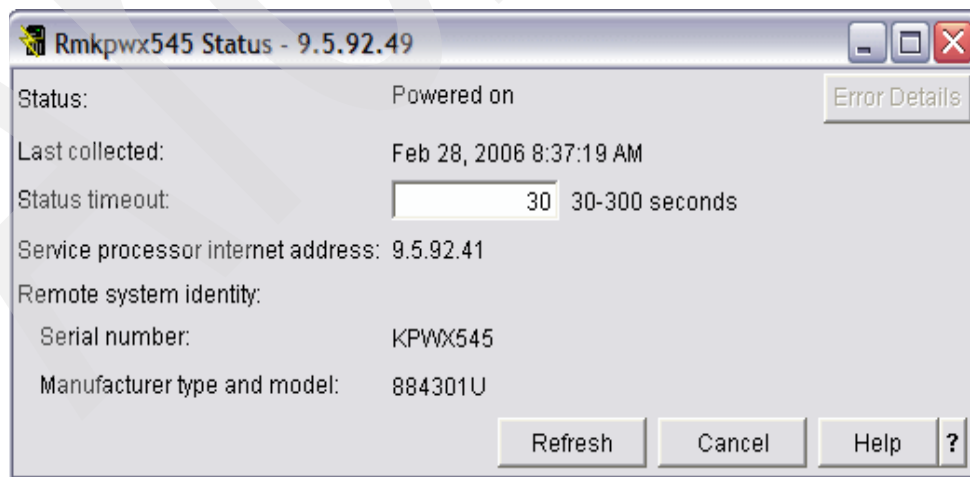
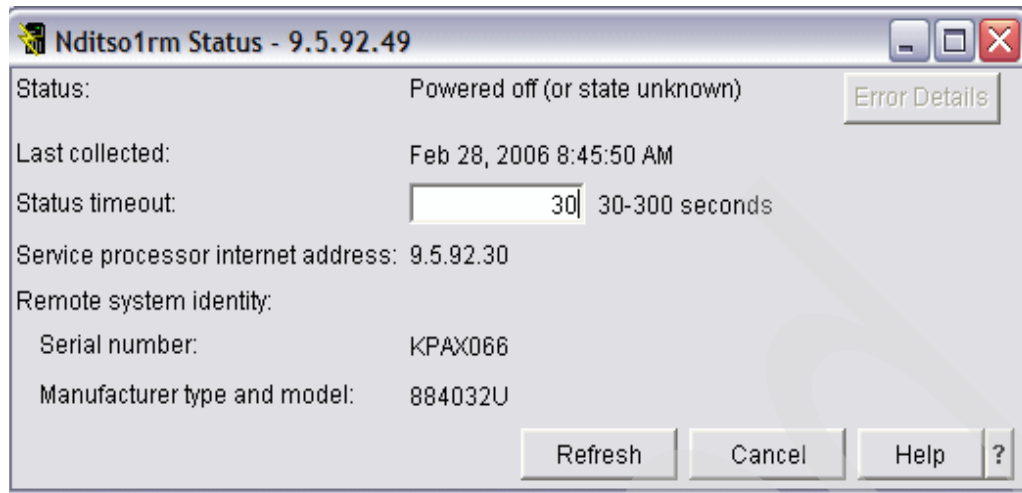
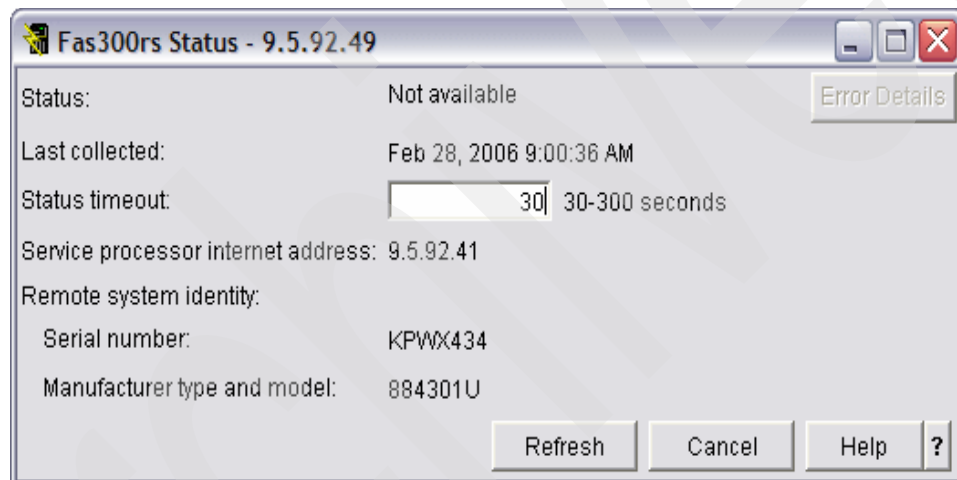

Figure 4-26 Verification that Director can find the server
Figure 4-27 Remote system is powered off or otherwise unavailable
Figure 4-28 Verifying remote system that is unavailable
- Click **Status** and the window returns with status. In Figure 4-26, it finds the server is powered on confirming that the server can be found. If the server was powered off but could still be found, it would return a status of powered off (Figure 4-27 on page 73). Another status that might need to be investigated is listed in Figure 4-28 on page 73.